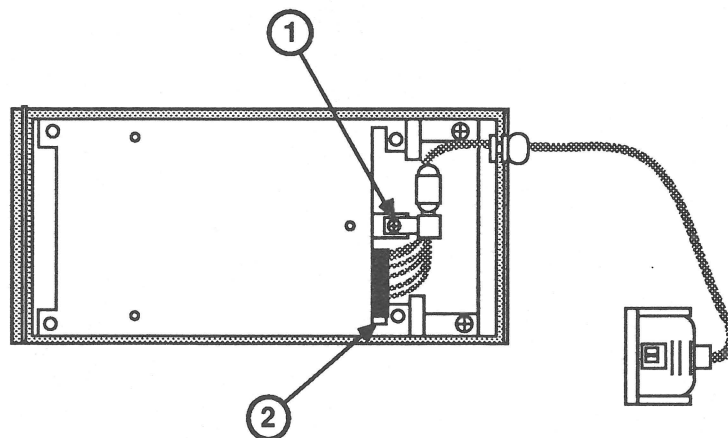

FIGURE 2
3. Remove the screw from the clamp holding the interface cable in place (see Figure 2, #1).
4. Disconnect the interface cable from the drive (see Figure 2, #2).
1. Connect the interface cable to the drive (see Figure 2, #2).
2. Position the clamp holding the interface cable and replace the screw (see Figure 2, #1).